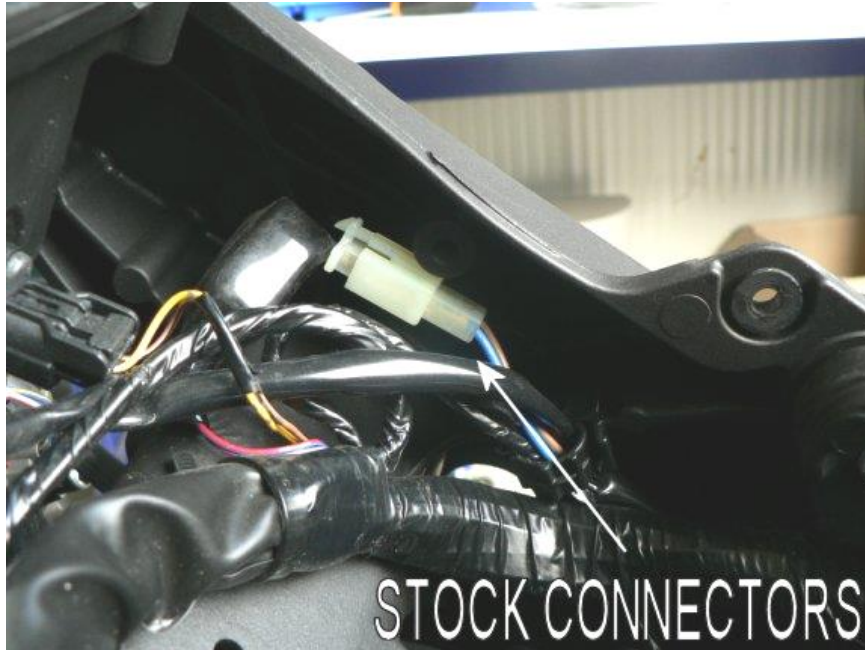

Fig.9
12. **Z1000 / Versys**: Locate the 2 pin white connector on the left side of the motorcycle (Fig.9). On MY2014- it is placed on the right hand side, covered by a black rubber boot.